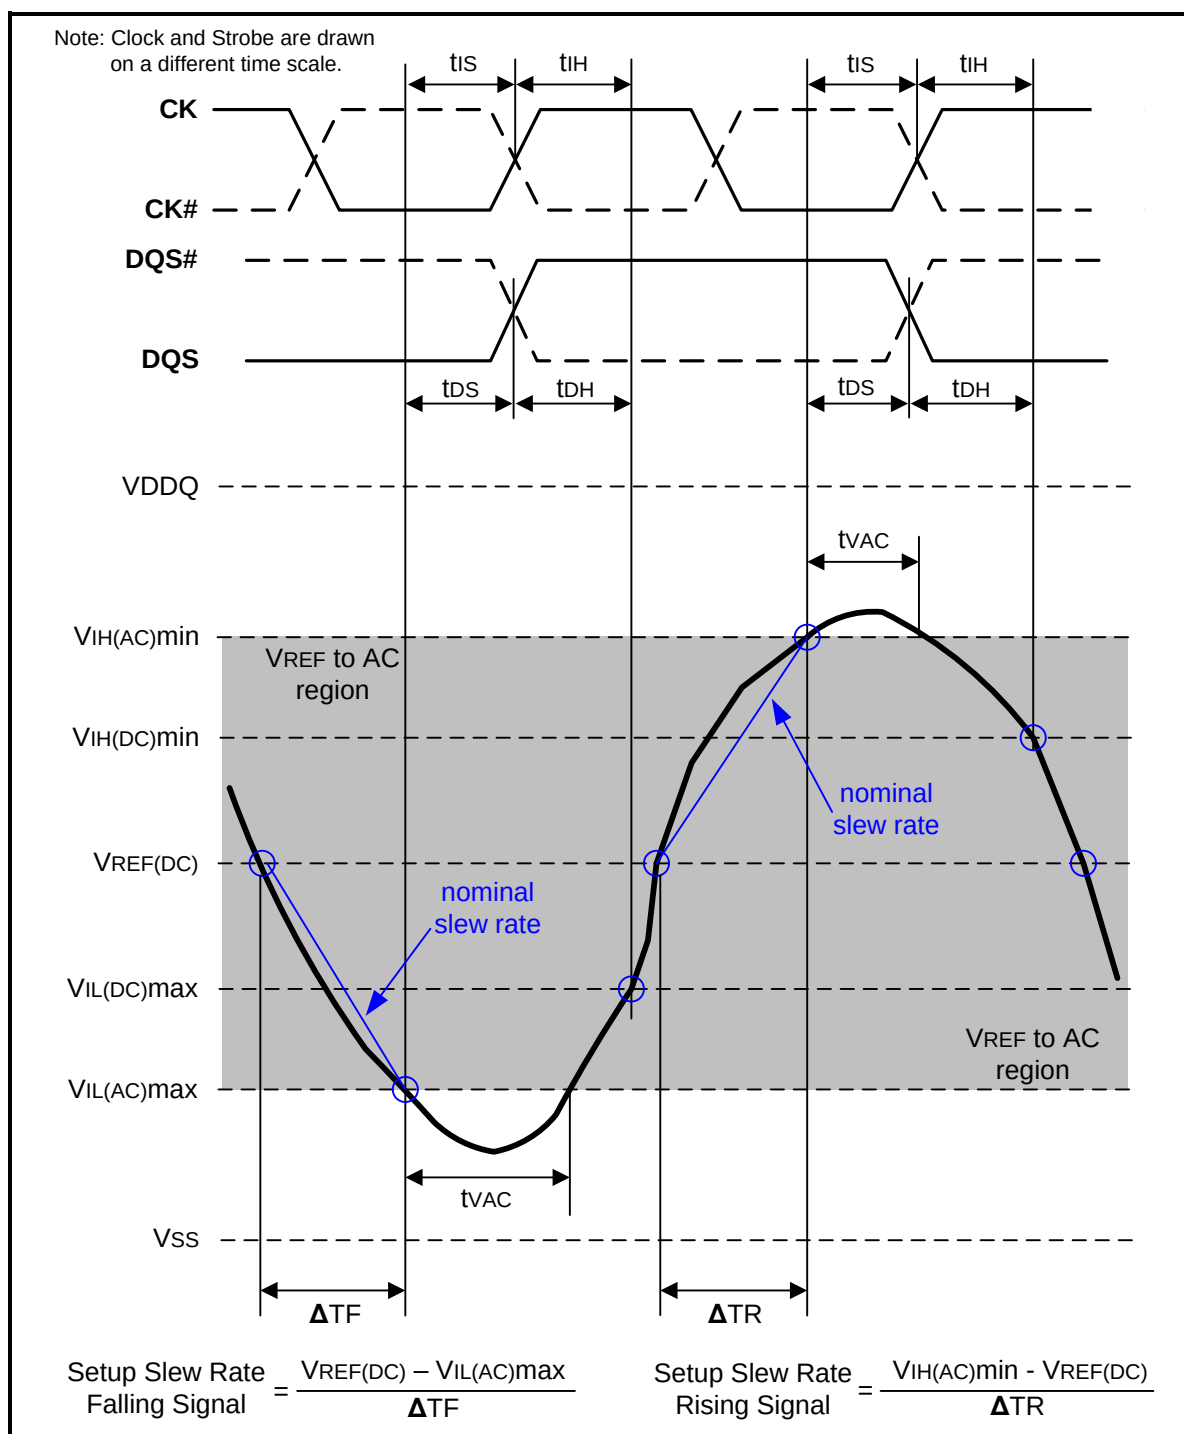
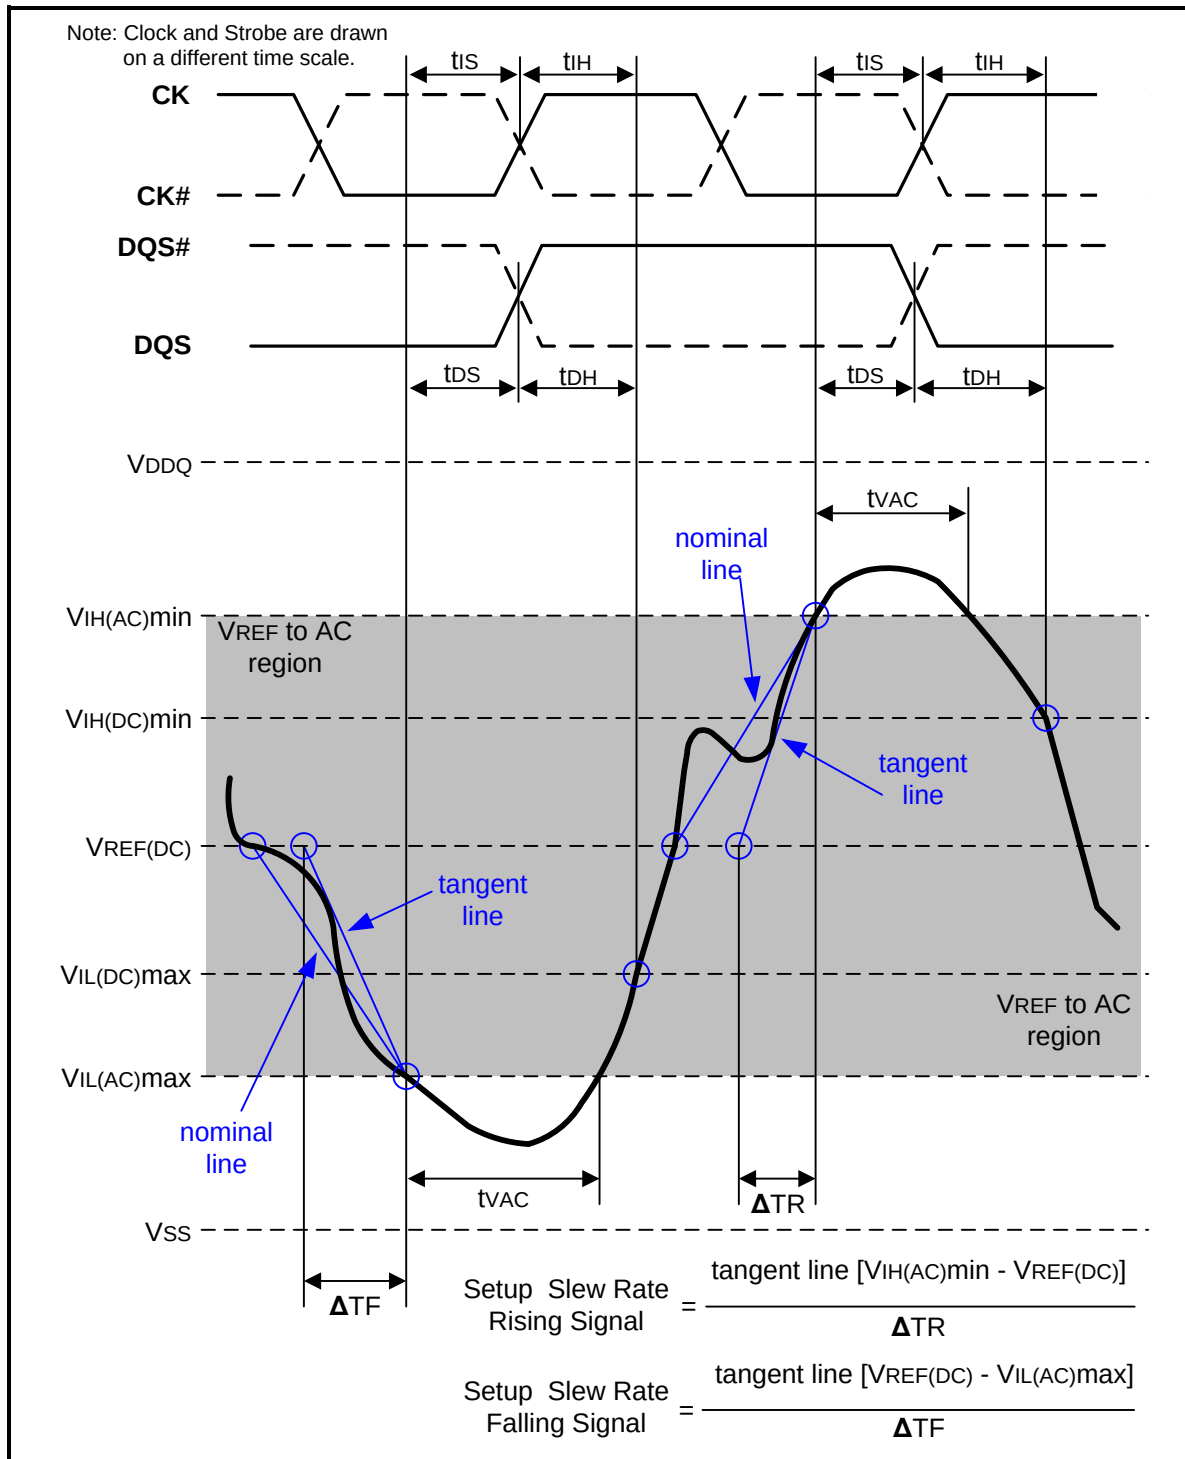

Figure 107 – Illustration of nominal slew rate and tvac for setup time t_{DS} (for DQ with respect to strobe) and t_{IS} (for ADD/CMD with respect to clock)
Figure 109 – Illustration of tangent line for setup time t_{DS} (for DQ with respect to strobe) and t_{IS} (for ADD/CMD with respect to clock)
Setup (t_{IS}) nominal slew rate for a rising signal is defined as the slew rate between the last crossing of $V_{REF}(\text{DC})$ and the first crossing of $V_{IH}(\text{AC})_{\text{min}}$. Setup (t_{IS}) nominal slew rate for a falling signal is defined as the slew rate between the last crossing of $V_{REF}(\text{DC})$ and the first crossing of $V_{IL}(\text{AC})_{\text{max}}$. If the actual signal is always earlier than the nominal slew rate line between shaded ' $V_{REF}(\text{DC})$ to AC region', use nominal slew rate for derating value (see Figure 107). If the actual signal is later than the nominal slew rate line anywhere between shaded ' $V_{REF}(\text{DC})$ to AC region', the slew rate of a tangent line to the actual signal from the AC level to $V_{REF}(\text{DC})$ level is used for derating value (see Figure 109).
Setup (tDS) nominal slew rate for a rising signal is defined as the slew rate between the last crossing of VREF(DC) and the first crossing of VIH(AC)min. Setup (tDS) nominal slew rate for a falling signal is defined as the slew rate between the last crossing of VREF(DC) and the first crossing of VIL(AC)max (see Figure 107). If the actual signal is always earlier than the nominal slew rate line between shaded 'VREF(DC) to AC region', use nominal slew rate for derating value. If the actual signal is later than the nominal slew rate line anywhere between shaded 'VREF(DC) to AC region', the slew rate of a tangent line to the actual signal from the AC level to VREF(DC) level is used for derating value (see Figure 109).